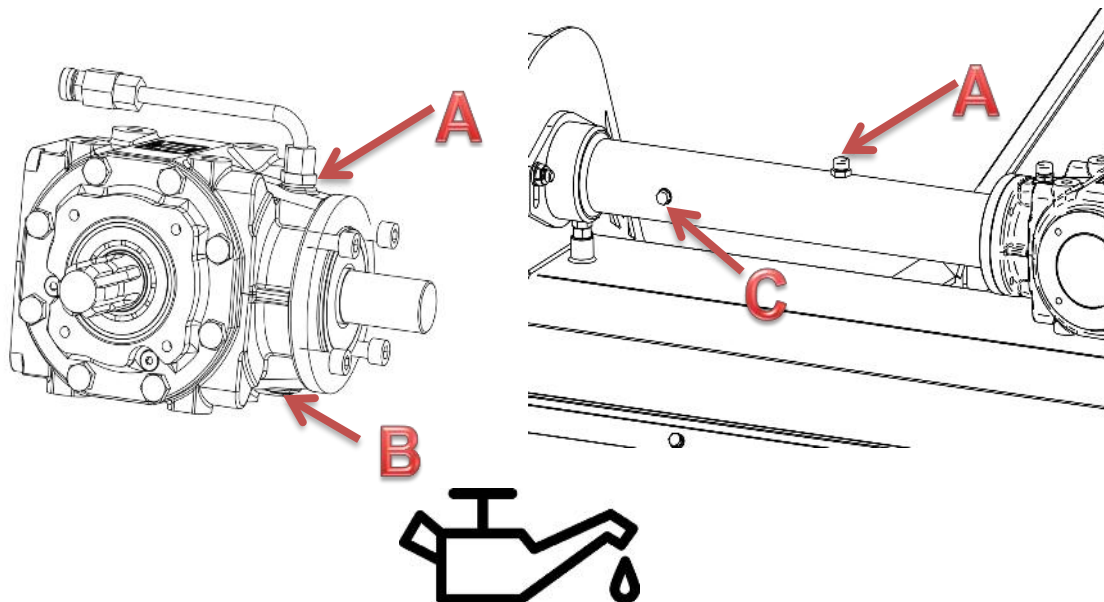
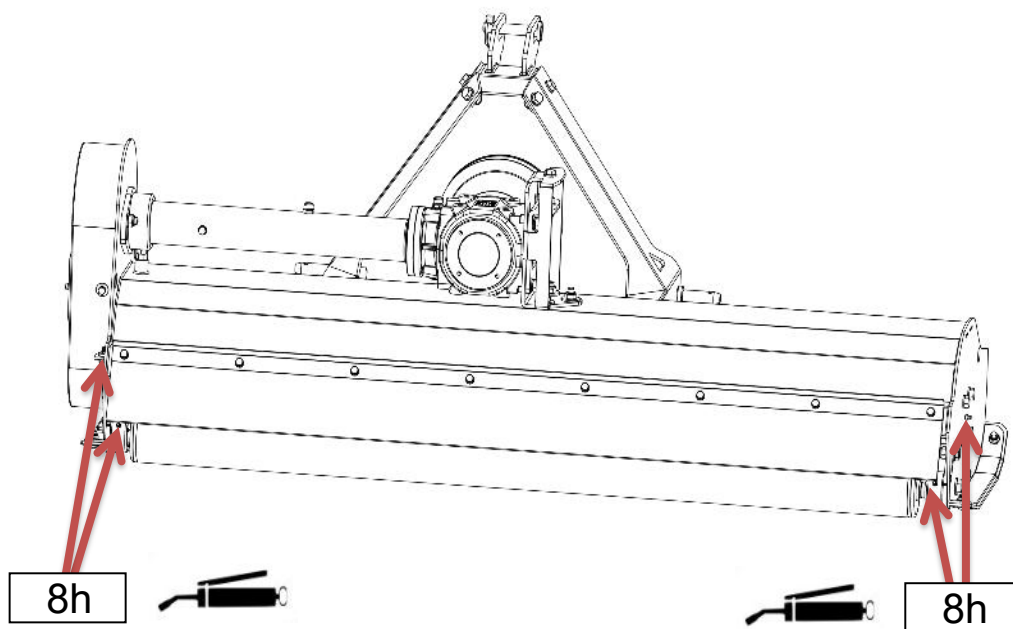

Figure 7. Oil change points
Figure 8. Lubrication diagram
The oil change points are marked in Figure 7, where the letters assay the oil filling inlet (A), drain plug (B) and sight glass (C).
All points indicated in Figure 8, equipped with ball type grease fittings, should be filled with solid grease LT43 using of a lubricating gun. Lubricate the jointed-telescopic shaft after removing it from the machine. Lubricate the telescopic part of the shaft at least after 8 hours of operation – when the shaft is entirely moved apart and impurities have already been cleaned. Details of PTO shaft operation are contained in a separate manual supplied with it. The figure 7 presents the location and recommended operating time after which the indicated components should be lubricated.
- lubricate the machine according to the lubrication diagram (Fig. 8),